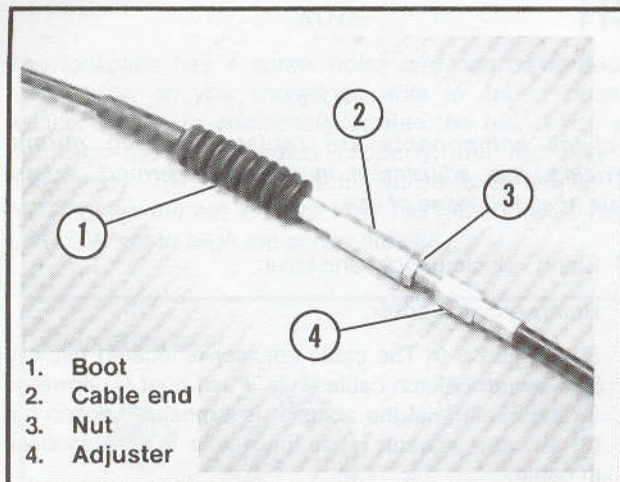

Figure 6-9. Clutch Cable Adjuster
3. See Figure 6-9. The cable adjuster is located midway between the clutch cable ends. Push boot (1) upwards on the cable until the adjuster is exposed. Loosen nut (3) and turn adjuster (4) all the way in to provide slack in cable.
6. See Figures 6-9, 6-10. Squeeze clutch lever to maximum limit three times, to set ball and ramp release mechanism. Pull outer cable conduit and at the same time adjust cable adjuster (4) to provide 1/8 - 3/16 in. free play at hand lever. Tighten jamnut (3) and return boot over adjuster.